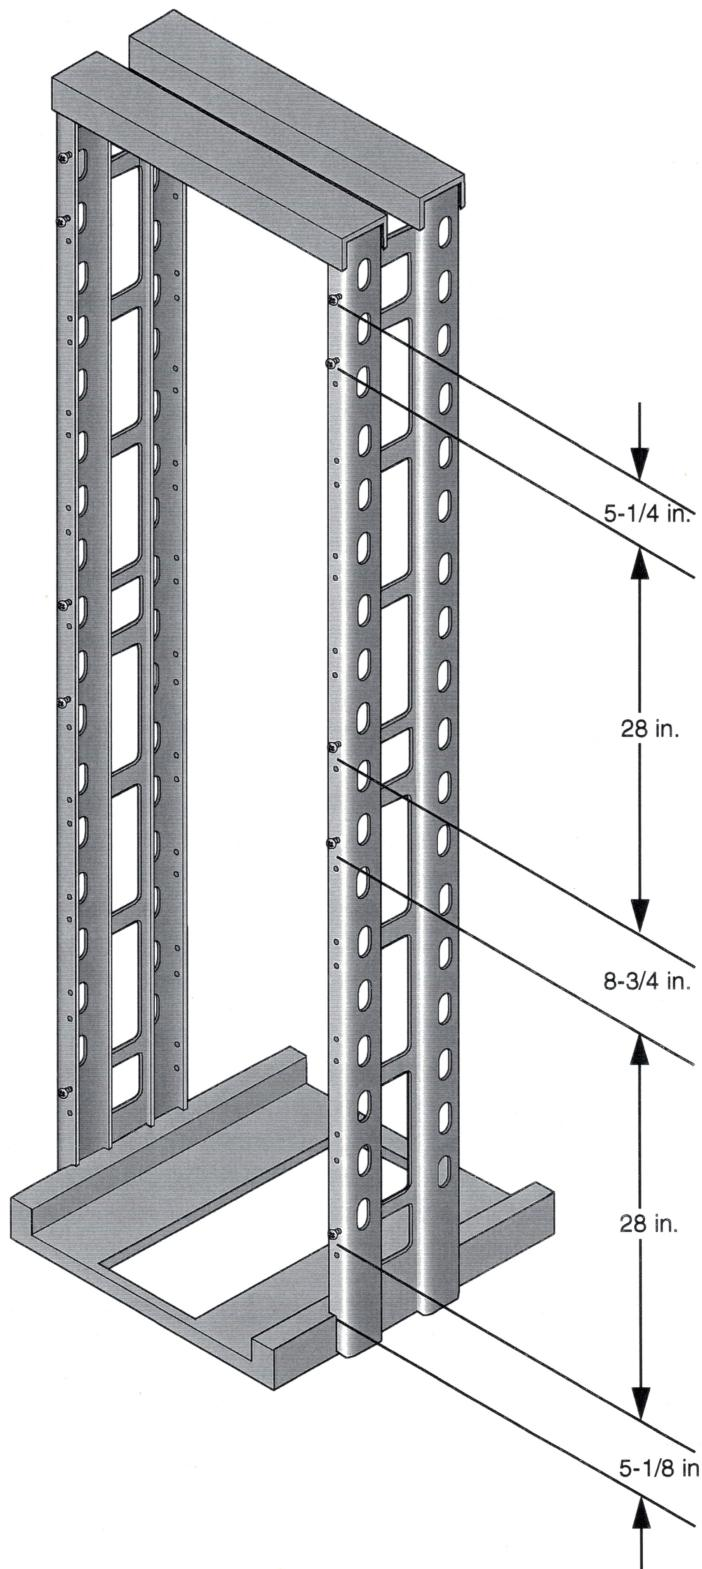

Figure 4 Setting the Keyhole Slot Screws by Measuring
1. Using a tape measure, measure from the top edge or surface of the base of the rack, and thread a keyhole slot screw partway into each of the locations indicated in Figure 4.